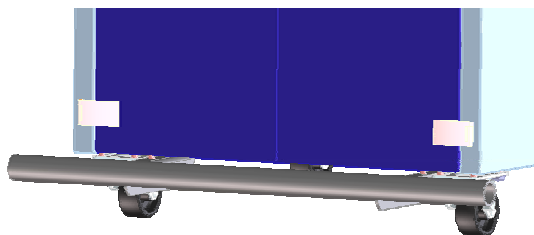

Fig. 3
- Lead the carrying belts through the rollers (fig. 3) on the lower side of the instrument.
The instrument is equipped with four rollers (fig. 3), which are suitable for an even floor.